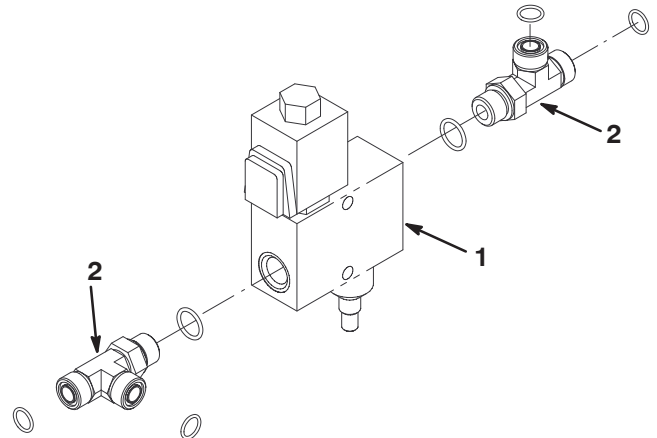

Figure 10
24. Install the tee fittings to the hydraulic manifold. Position the fittings as shown in figure 10. Make sure the O-rings are lubricated and in place.